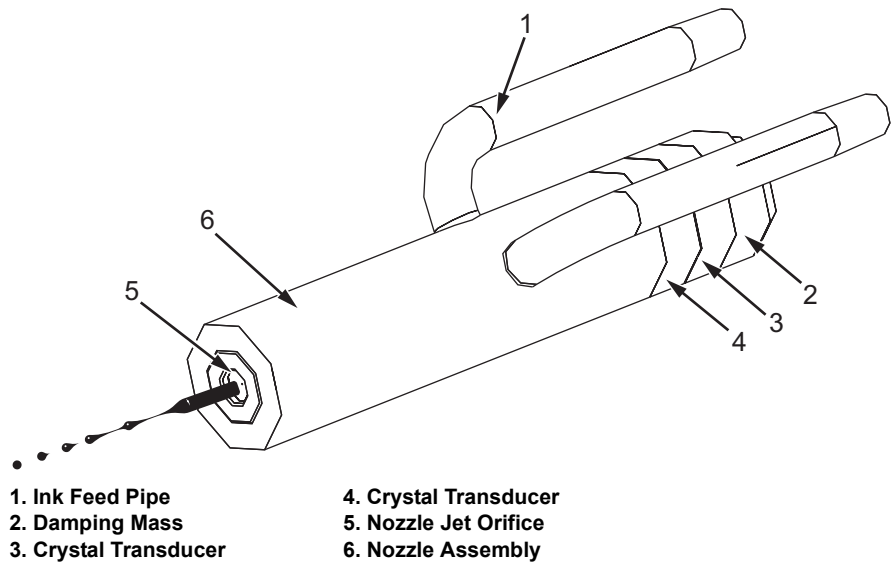

Figure 3-40: Ink Jet Formation
- 9 An electrically conductive ink is supplied under pressure by the ink core to the nozzle assembly (item 6, Figure 3-40) through the ink feed pipe (item 1).
- 10 An ink stream is formed as the ink is forced out of the nozzle jet orifice (item 5).